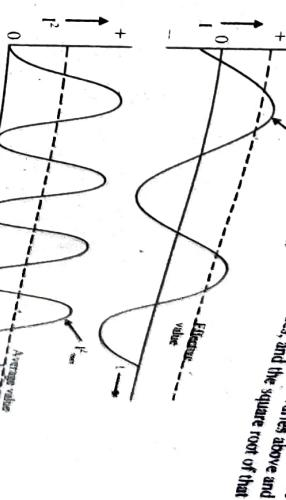

Fig. 1 Effective value of current
To understand the concept of effective value let us consider a sinusoidal current (I) wave (Figure 1).